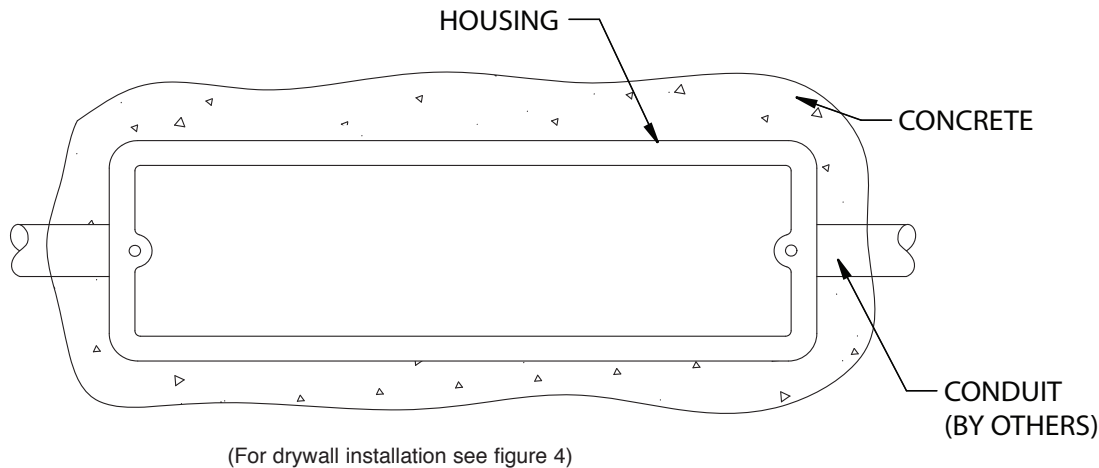

FIG. 2
- a. For concrete pour and masonry construction refer to FIG. 2 and 3.